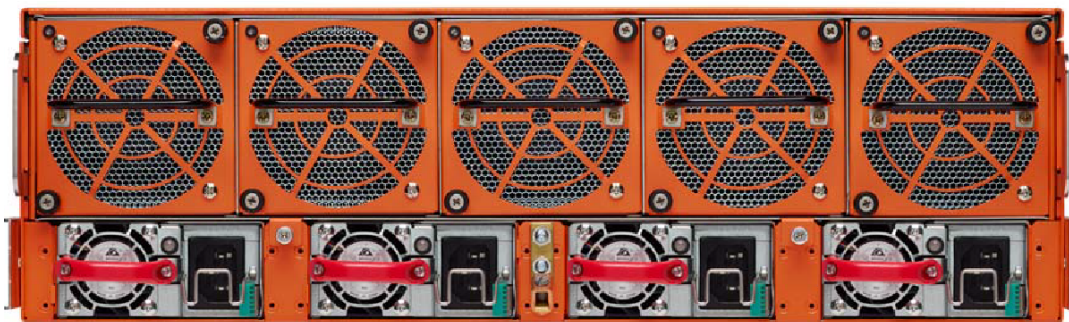

Figure 6 Four Power Supply Modules Installed
4. Repeat the previous steps for the next PSM. Figure 6 Four Power Supply Modules Installed shows the GigaVUE-HC3 node with all four power supply modules installed.